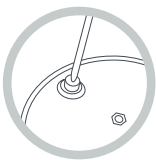

Fig.5a
1. Vent (23). Remove the lid and the rotary valve. Check insides the lid that the vent is completely clean. Otherwise, clean it with a thin rod (Fig. 5a).